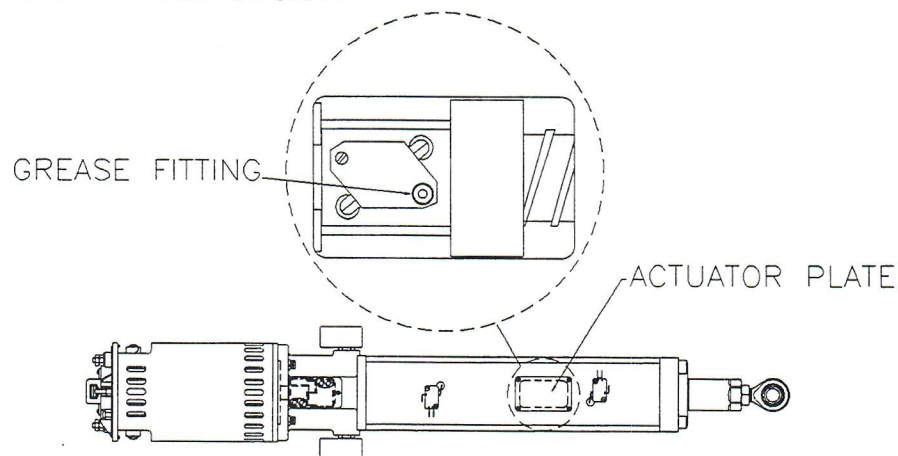

FIGURE 40
Rear Actuators: Using a T-25 wrench, remove four 10-32 screws (2 per side) from the side tunnel guard doors (Ref. Figure 24). Open one door at a time. Remove the four Phillips head screws which retain the actuator access cover. Remove both access covers to expose the grease fittings (Ref. Figure 40).
Front Actuator: Using a T-25 wrench, remove the two 10-32 screws which retain the front tower cover (Ref. Figure 32). Remove the front tower cover. Remove the four Phillips head screws which retain the actuator access cover. Remove the access cover to expose the grease fitting (Ref. Figure 40).
4. Place the gun nozzle onto the actuators grease fitting (Ref. Figure 40) and SLOWLY squeeze the handle THREE (3) times ONLY per actuator. Repeat this procedure for all three actuators. Do not allow any foreign matter to fall into the actuator.